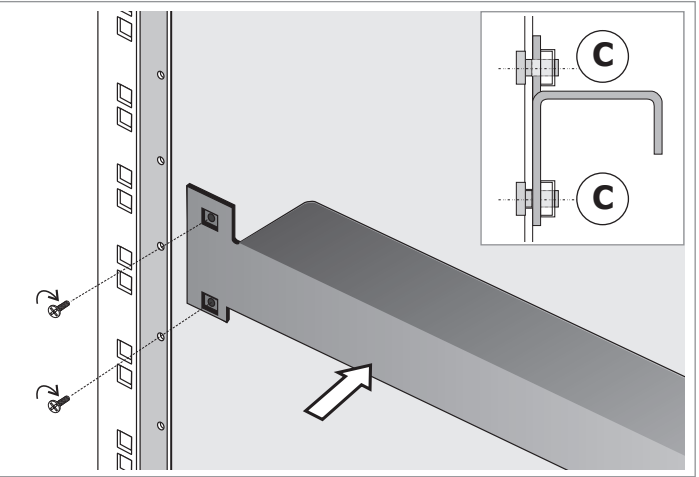

Fig. 2.1.3
1. Fix the brackets **(B)** to the rack by means of the supplied screws **(C)** as shown in figure 2.1.3.